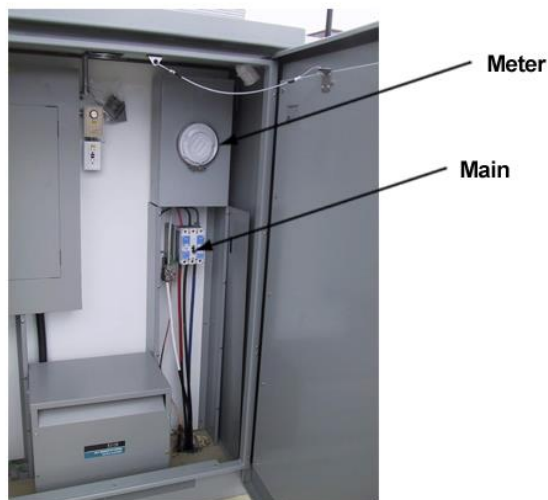

Figure 15
- A. Meter shall be located on the interior of the lighting control cabinet, per Figure 15 c/w metering window.